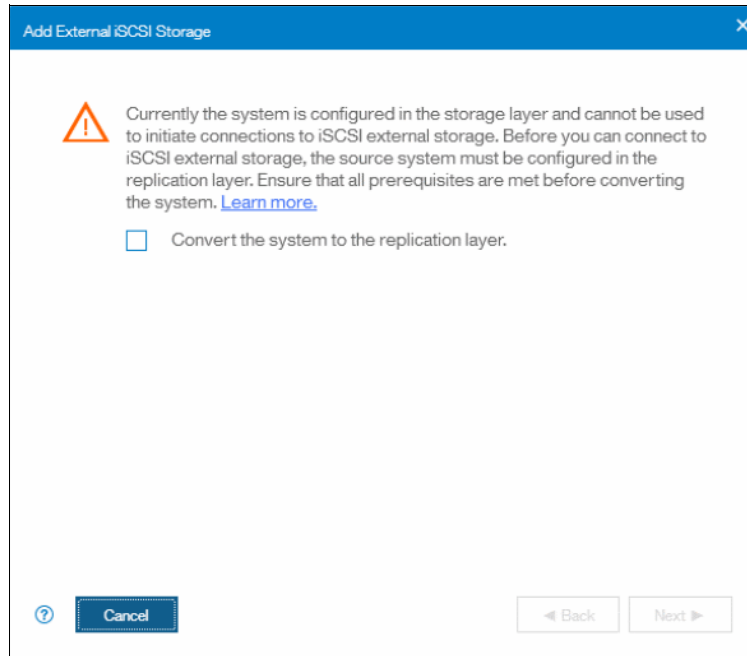

Figure 5-68 Converting the system layer to replication to add iSCSI external storage
5. Select **Convert the system to the replication layer** and click **Next**, as shown in Figure 5-68.